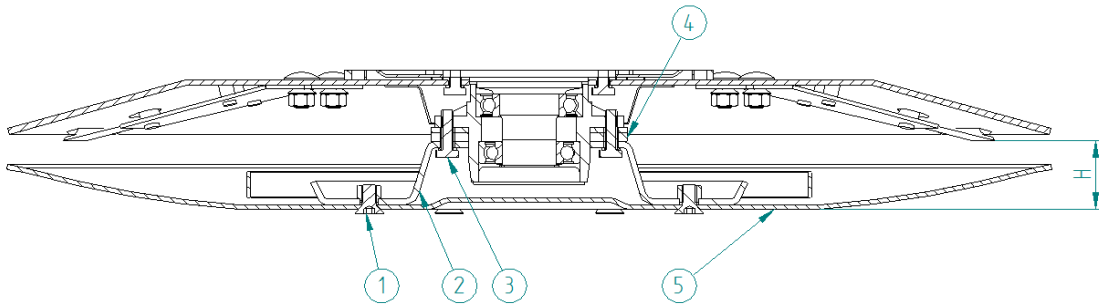

Figure 15 Cutting height adjustment: H) cutting height
- 3) Remove the screws (Fig. 15 item 1) and remove the sliding plate (Fig. 15 item 5),
- 4) Remove the screws (Fig. 15 item 3) holding the sliding plate (Fig. 15 item 2) and remove it,
- 5) Adjust the cutting height (Fig. 15 item 4 – spacer rings),